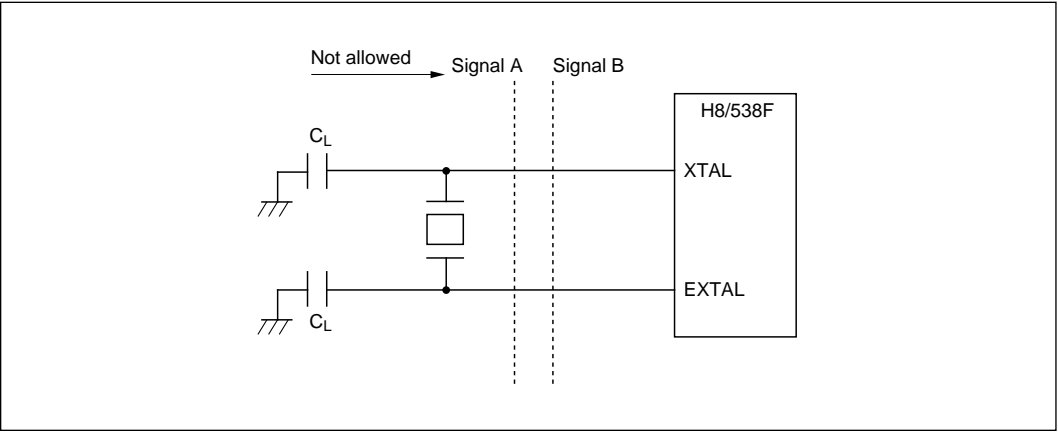

Figure 8-4 Example of Incorrect Board Design
(3) Notes on Board Design: When a crystal resonator is connected, the following points should be noted:
- Other signal lines should be routed away from the oscillator circuit to prevent induction from interfering with correct oscillation. See figure 8-4.